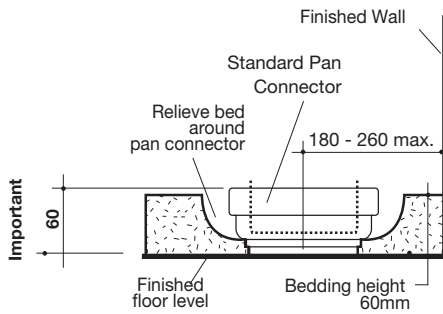
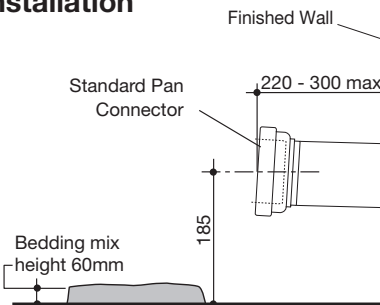

Fig. 1
Fig. 2
It is essential for installation of the Prima Link Toilet Suite that the soil pipe and pan collar for 'S' and 'P' trap installation are accurately fixed into position as detailed in **Fig. 1** or **Fig. 2**.
- 3- Prepare bedding sand cement mixture 3:1 to depth of 60mm as detailed in **Fig 1**. Note: Do not fill the foot of the pan with bedding mix or include lime or fast drying cement in the mix, these may cause cracking in the foot of the pan.